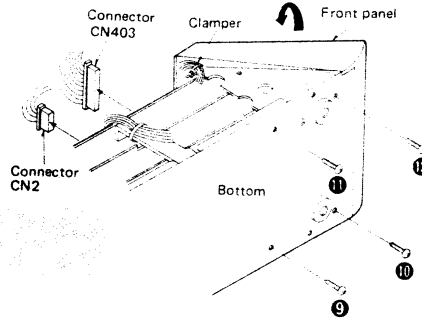

Fig. 2
2. Remove the 4 setscrews (Fig. 2 : ⑨ ~ ⑫) of the front panel.
3. Pull out the connectors CN2 and CN403 of the constant voltage and operation circuit P.C.B. and remove the panel in the direction of the arrow. (Fig. 2)